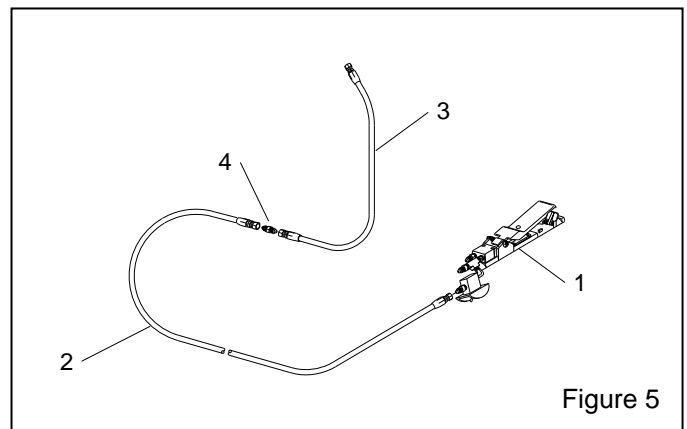

Figure 5
**7.3 ACS Systems Replacement parts, Figure 5**